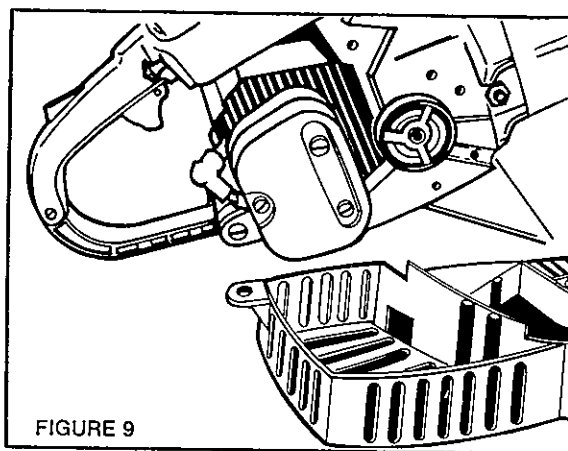

FIGURE 9
6. Reinstall the muffler. If the gasket is damaged, install a new one. **NEVER OPERATE THE ENGINE WITH ANY OF THE SHROUDING REMOVED.** Injury to you or others could result. (Fig. 9)